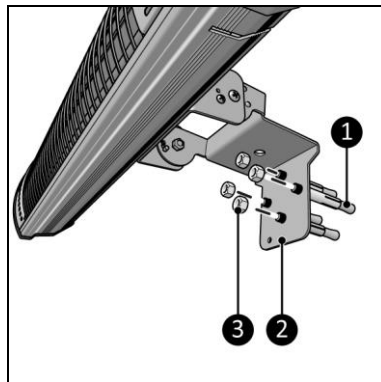
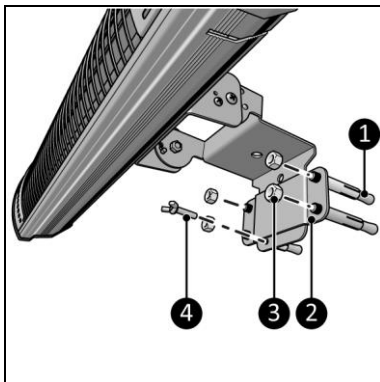

Figure 9
Figure 10
- Fixed to the wall (Figure 9).
- Removable from the wall (Figure 10).
1. Attach the suspension bracket (Figure 9, pos. 2) level on the wall using the four anchor bolts (Figure 9, pos. 1) and the four nuts (Figure 9, pos. 3).
1. Attach the wall bracket (Figure 10, pos. 2) level on the wall using the four anchor bolts (Figure 10, pos. 1) and the four nuts (Figure 10, pos. 3).
2. Place the suspension bracket (Figure 9, pos. 2) behind the wall bracket (Figure 10, pos. 3).
3. Fix the wing bolt (Figure 10, pos. 4) in the suspension bracket (Figure 9, pos. 2).